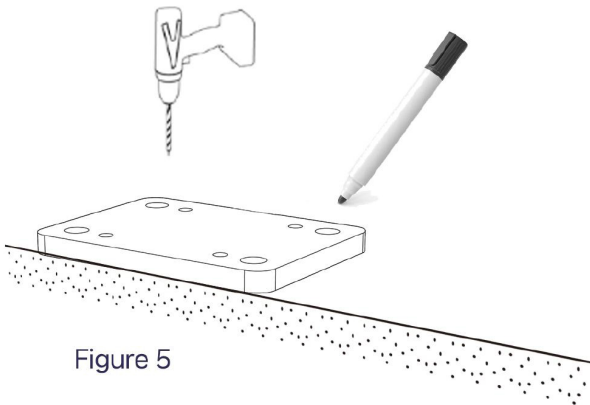

Figure 5
- 5.** Once you've selected the post installation spot, position the post base on the concrete surface. Use a pencil or marker to mark the drill hole locations, following the pattern in Figure 5, and proceed to drill the holes.